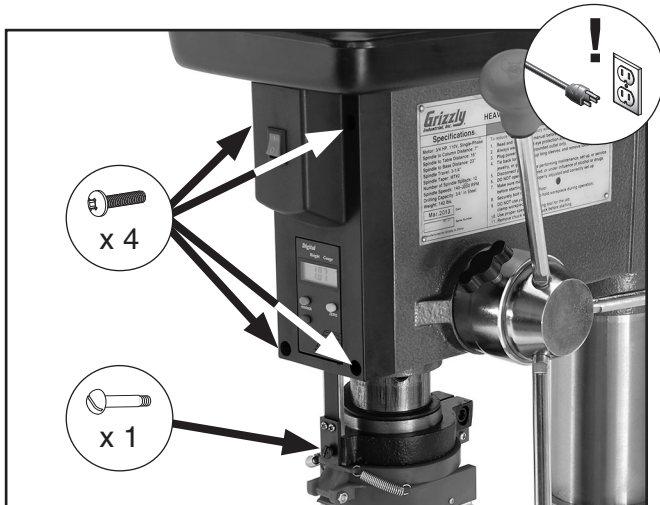

Figure 4. Location of DRO mounting screws.
2. Remove (1) shoulder screw, then remove (4) M5-8 x 14 Phillips head screws shown in **Figure 4** and remove DRO housing.